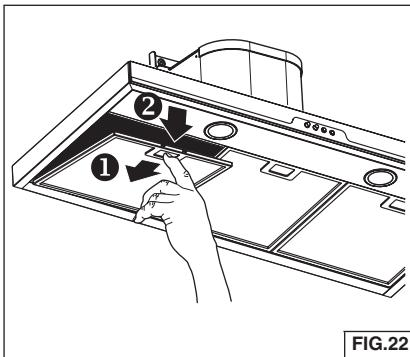

FIG.22
1. To remove the GREASE filter, push in latch tab to disengage the filter from the hood. Tilt the filter downward and remove. Fig. 22.
2. To install the GREASE filter, align rear filter tabs with slots in the hood. Push latch tab in, push filter into position and release. Make sure the filter is securely engaged after installation. Fig. 22.